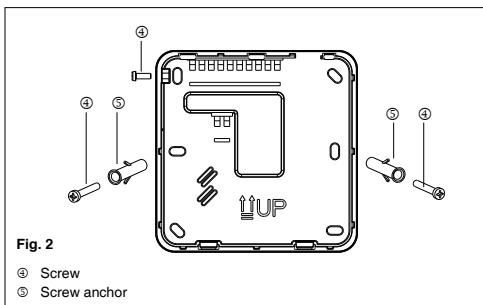

Fig. 2
- Remove the locking screw in the upper left side to separate the unit from the control (Fig. 2). Secure the unit on the wall and mark the drill holes.
- Fix the control to the wall using the corresponding screw anchors ④.
- Put the control cover back to its place by reinstalling the screw previously removed (Fig. 2).